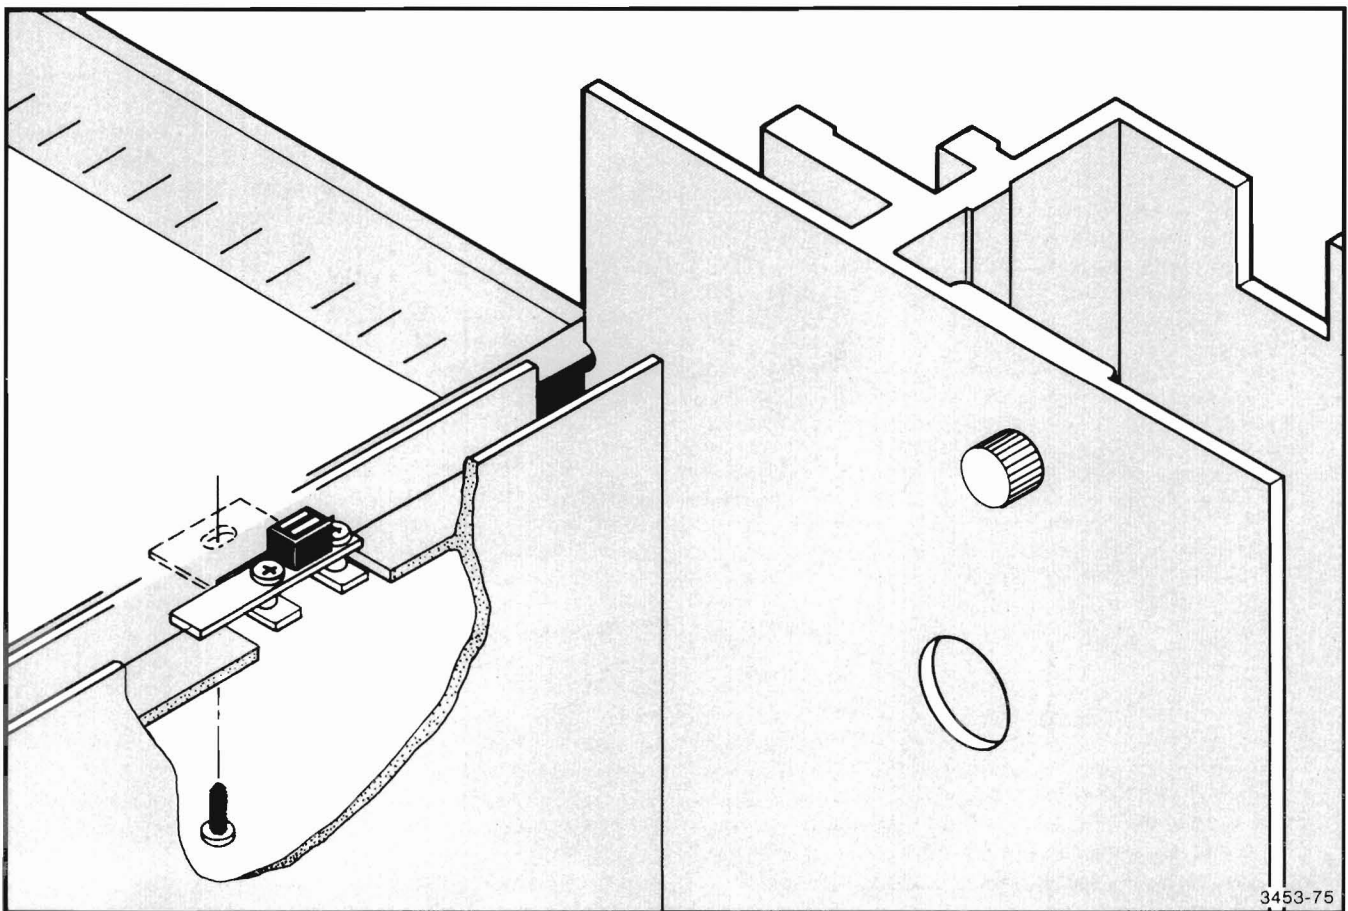

Figure A-13. Object Sensor Assembly.
2. Mount the Object Sensor circuit board (670-5685-00) to the bracket (386-4262-00) with two spacers (361-0532-00) and two screws (211-0198-00) as shown in Figure A-13. Notice the orientation of the circuit board — the numbered end of the circuit board points to the rear of the instrument. Also notice that the spacers go between the bracket and the Object Sensor circuit board.